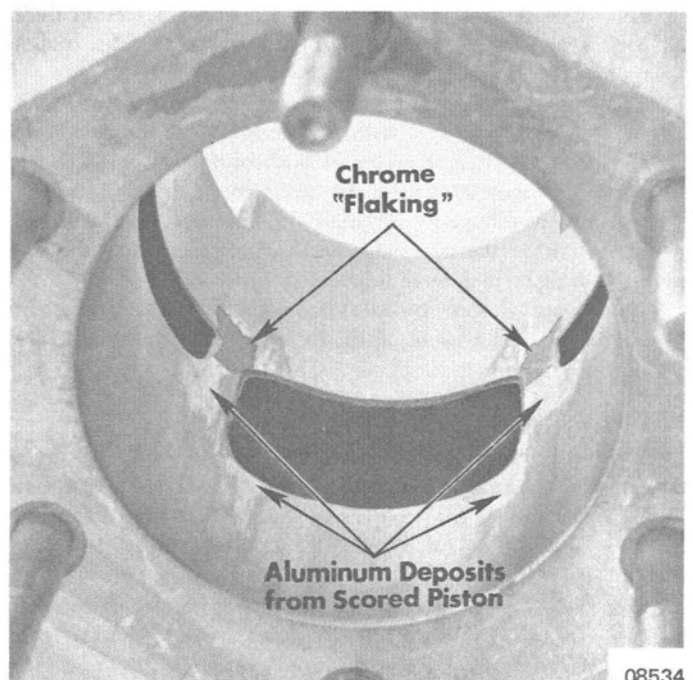

Figure 3. Chrome "Flaking"
10. Carefully inspect cylinder bores for signs of scoring, "flaking" (Figure 3) and grooves. If chrome surfacing is "flaking", grooved, scratched or worn thru, cylinder must be replaced.
**IMPORTANT:** Cylinder bores are surfaced with chrome. If chrome surfacing is "flaking" (Figure 3), grooved or damaged in any other manner, cylinder(s) must be replaced. If pistons have scored and transferred aluminum to cylinder bores, honing usually will "clean up" the cylinder bores.